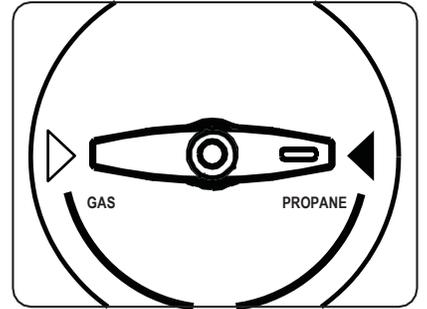

Fig 10
- Turn the fuel selector to “GAS” position (See fig 10)
- Turn the fuel selector to “Propane” position (See fig 10)